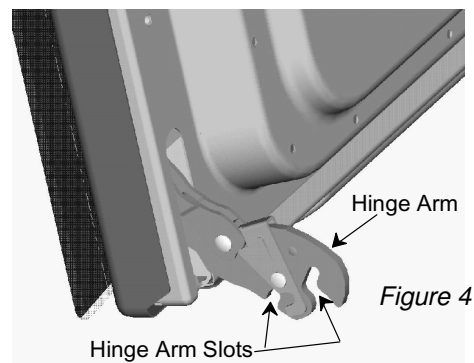
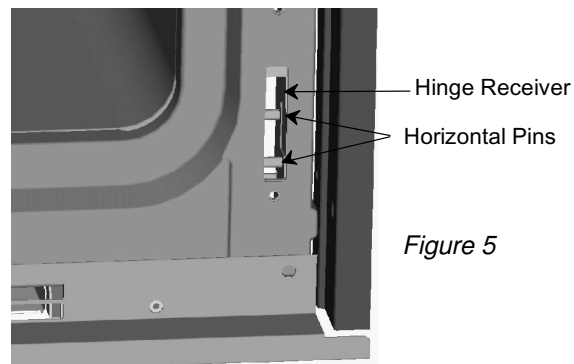

Figure 4
Figure 5
- Grasp oven door firmly on each side, hold oven door at approximately a 30° angle and align oven door hinge arm (see Figure 4) with hinge receiver on unit (see Figure 5).
- Insert oven door hinge arm into hinge receiver until the hinge arm slots (see Figure 4) align with horizontal pins on the hinge receiver (see Figure 5) and place hinge arm onto the hinge receiver.